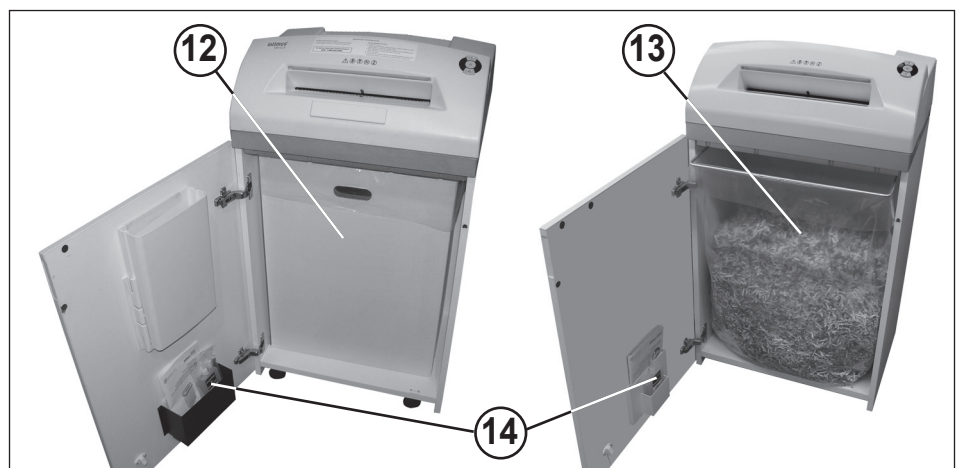

Fig. 4
12 = Receptacle (Fig. 4)
13 = Paper collection bag (Fig. 4)
14 = Oil reservoir (Fig. 4)
EMPTYING THE RECEPTACLE / PAPER COLLECTION BAG / (Fig. 4):
Open the door. The control display (8) comes on and the reverse button (4) LED display (7) as well as the control display (7) flashes. Remove the oil reservoir (14) (Fig. 4) from the holder in the door and close the door again.